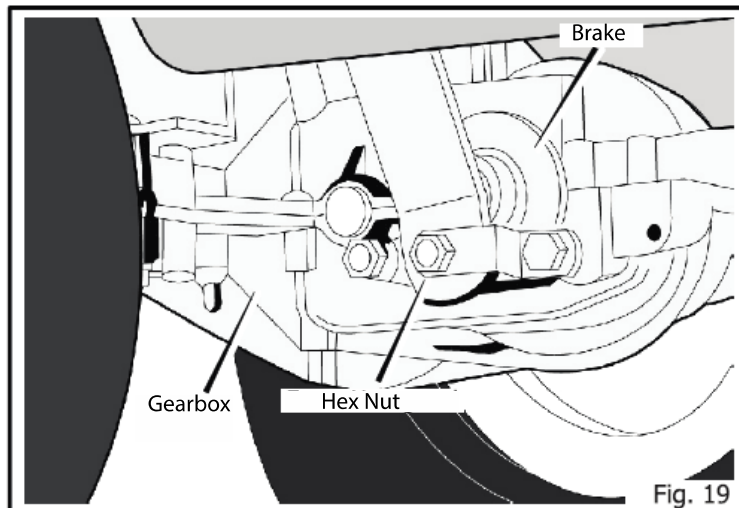

Fig. 19
1. The brake pads are located on the left side of the gearbox (Figure 19).